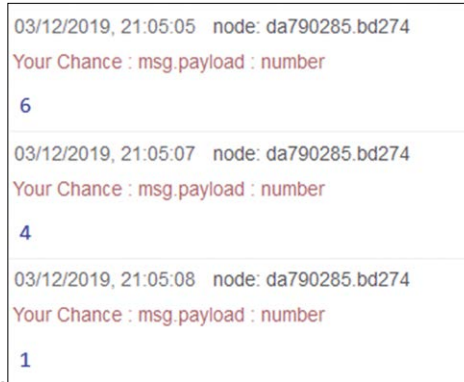

Figure 4.25 The Debug window
- Click the **inject** nodes button. You should see a number between 1 and 6 displayed in the Debug window. Every time you click the inject nodes button, a random number will be generated and displayed between 1 and 6 as shown in Figure 4.25